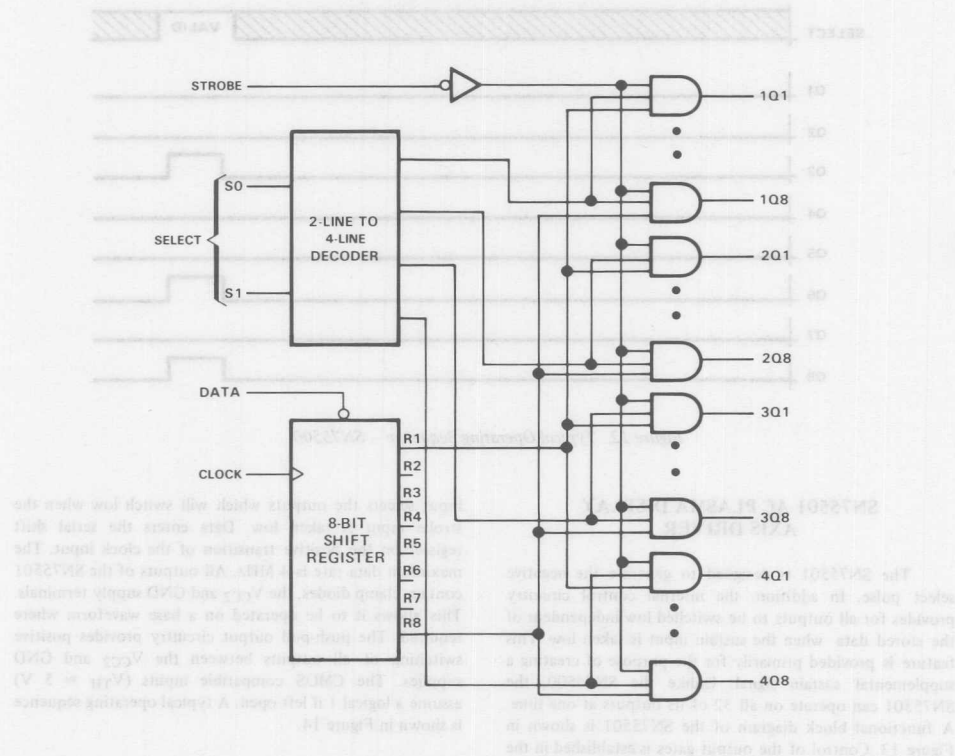

Figure 11. SN75500 Functional Block Diagram
The operation of the SN75500 on the horizontal or vertical electrodes is primarily dependent on the panel's application. The outputs of the SN75500 are normally low and switch high selectively when the strobe input is low. The SN75500 thus provides the positive select pulse. A functional block diagram of the SN75500 is shown in Figure 11. Selection of the outputs (32) is accomplished with the select and data inputs. The 32 outputs of the SN75500 are divided into four sections (1QX, 2QX, 3QX, 4QX) of eight outputs each. Only one of the four sections can be activated at one time (eight outputs). All other outputs (24) remain low. For this reason most systems use the SN75500 to scan the electrodes along which the information is written. Selection of the specific section is determined by the select inputs S0 and S1 (Table I). When selected, the state of the eight outputs of the section is determined by the data stored in the 8-bit storage register.